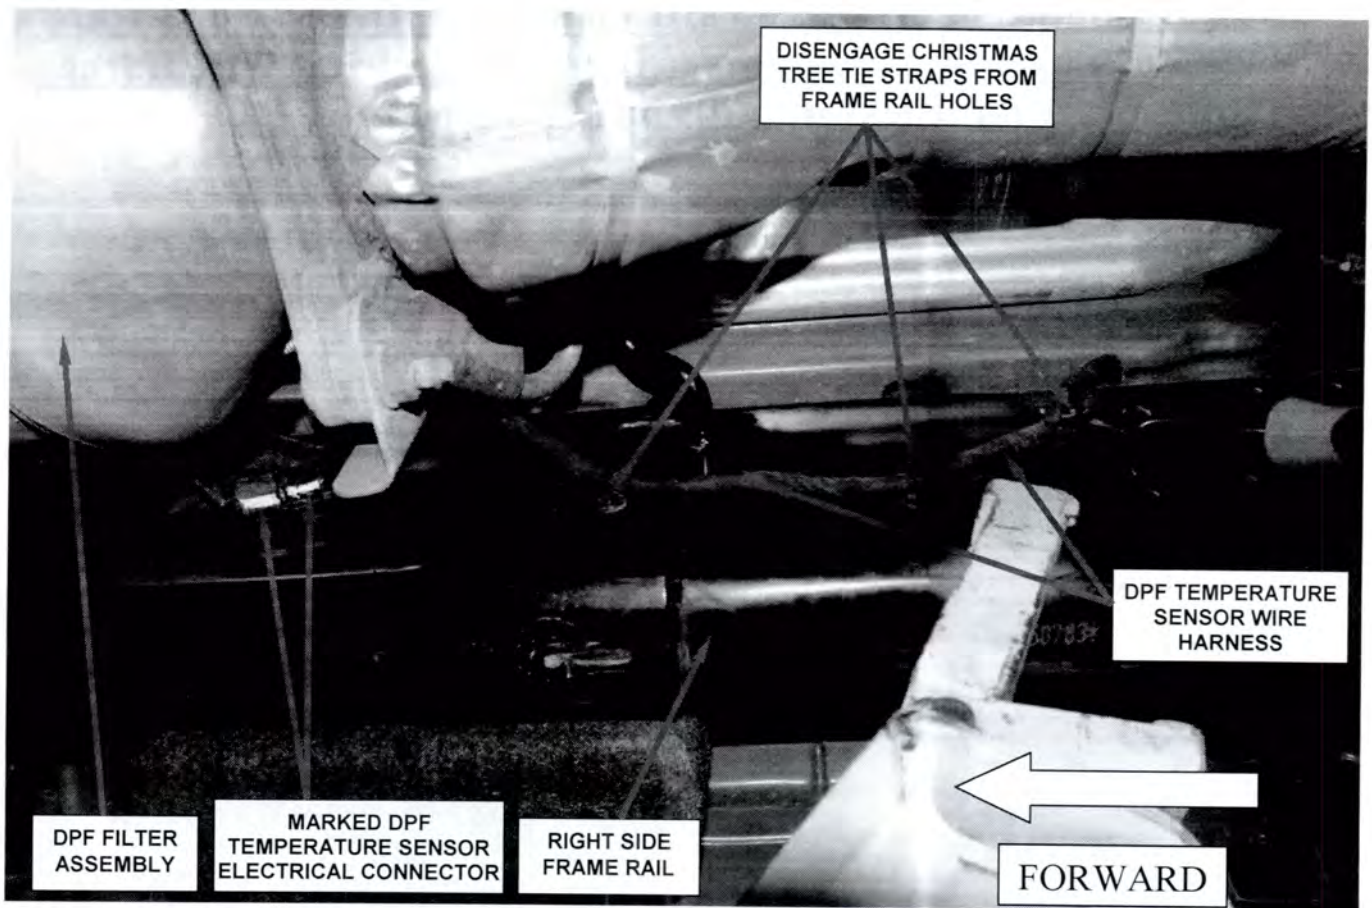

Figure 2 – Detach DPF Temperature Sensor Wire Harness from the Frame Rail
3. Detach the three DPF temperature sensor wire harness Christmas tree tie straps from the frame rail (Figure 2).
4. Cut off and discard the three Christmas tree tie straps from the DPF temperature sensor wire harness (Figure 2).